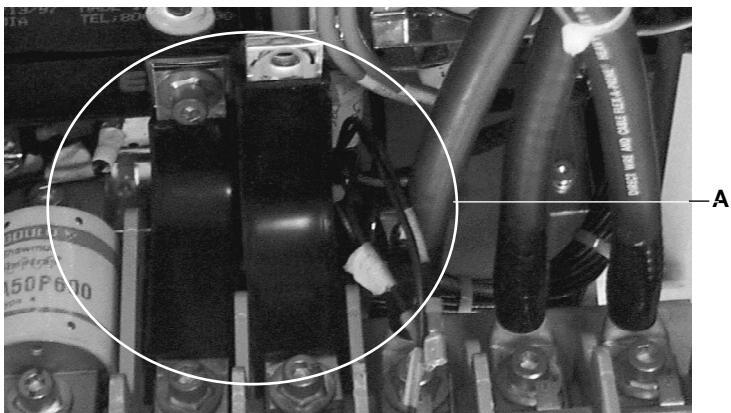
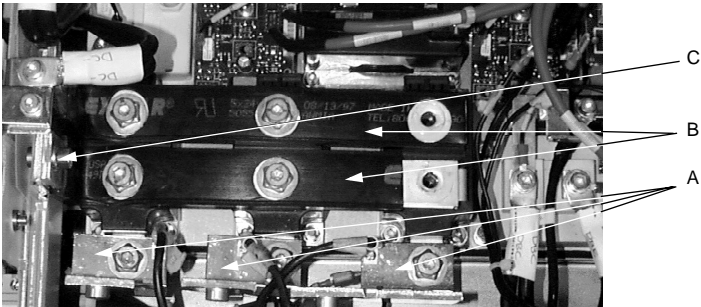

Figure 4.2.24: DC Intertie Flex Buses
Figure 4.2.25: Flex Buses Over Line Rectifier Diodes
4. Remove the hex screws securing the DC intertie flex buses (**A** in Figure 4.2.24) to the power terminal block and the flex buses (**B** in Figure 4.2.25 on page 4.2.50) over the diode modules. Note the position of the flex buses as you remove them and save the spacers for reassembly.
6. Remove the hex bolts securing the right angle bus bar to the diode module being replaced (**A** in Figure 4.2.25) and remove the bus bar.
7. Remove the four screws securing the two flex buses (**B** in Figure 4.2.25) to the diode modules.
8. Remove the two screws holding the two flex buses to the vertical DC bus (**C** in Figure 4.2.25) and remove the two flex buses.